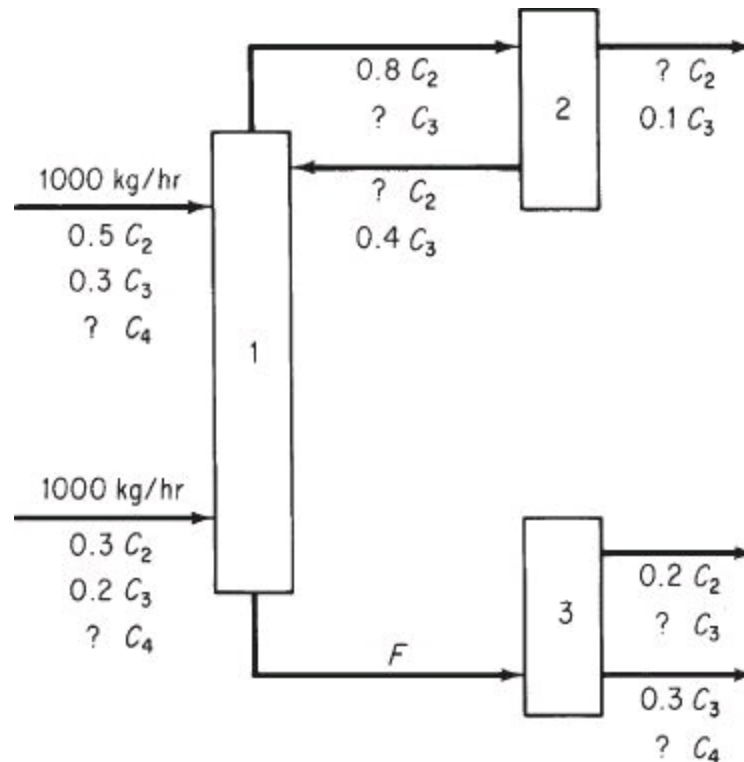

Figure P6.1.5
****6.1.5.** A distillation process is shown in Figure P6.1.5. You are asked to solve for all of the